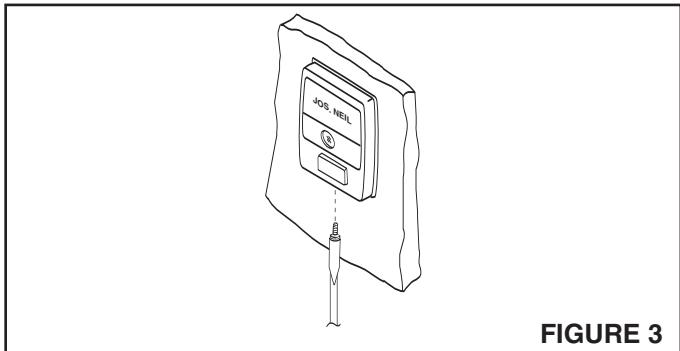

FIGURE 3
- Refer to Figure 3. Secure metal trim in place by tightening the screw located at the bottom of the unit.